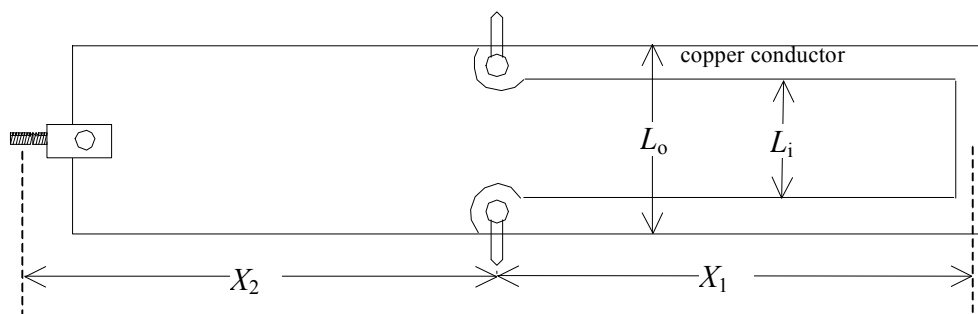

Fig 2
X_1 = the moment arm for the magnetic force. See Fig 2;
X_2 = the moment arm for the wire weights. See Fig 2.
1. Measure the dimensions of the current balance, obtaining the moment arms X_1 and X_2 and the length of the current segment L_b . X_2 should be measured up to where you are going to add the wire weights. L_b should be the average of the outer edge L_o and inner edge L_i . See Fig 2. Record your results in table format, paying attention to the uncertainties.